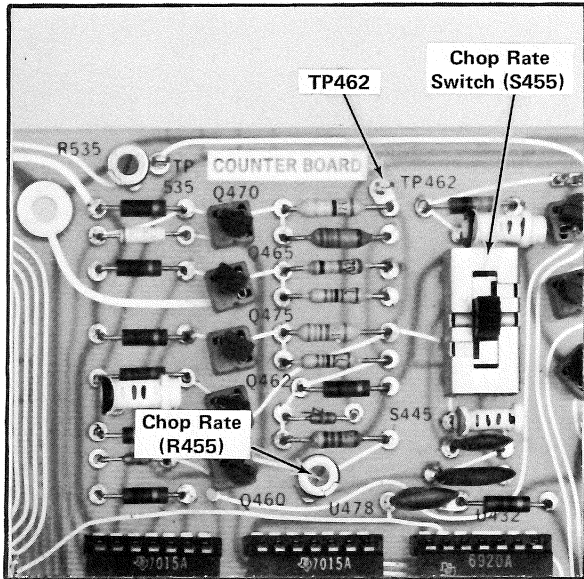

Fig. 5-8. Location of TP462, R455, and S455 on Counter Board.
- a. Connect 10X probe to TP462 (see Fig. 5-8). Connect a 5k resistor to probe tip if oscillations occur.